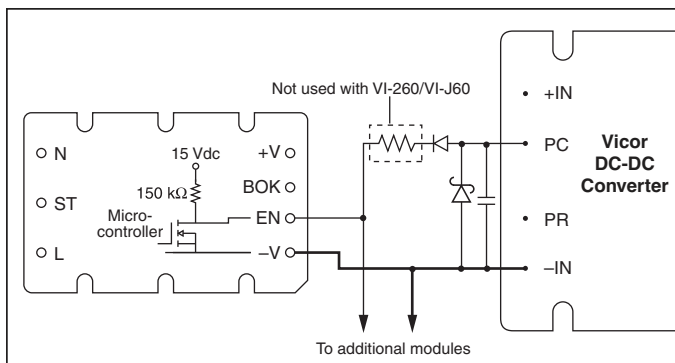

Figure 11 — Enable (EN) function; See Fig.8 for details
**Enable (EN) Pin.** (See Fig. 11). The Enable pin must be connected to the Gate-In or PC pin of all converter modules to disable the converters during power-up. Otherwise, the